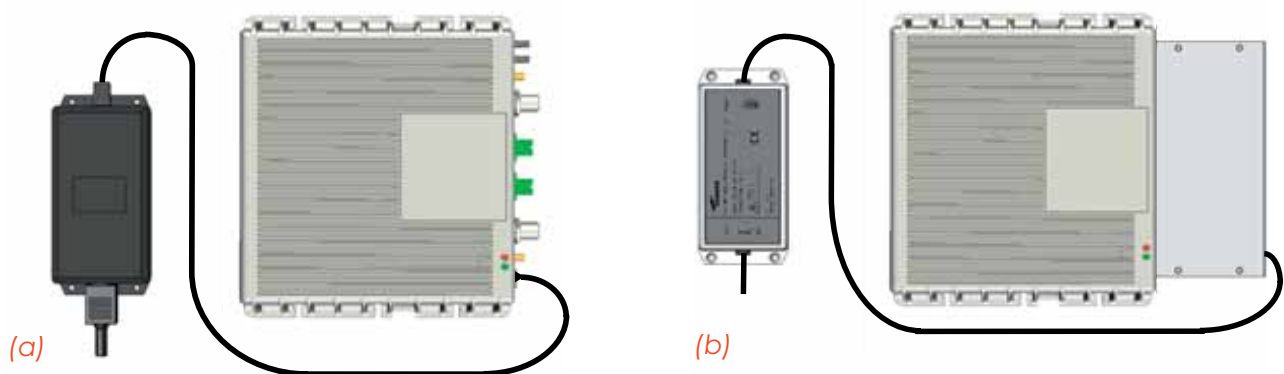

Figure 3.2.8:
- Under no circumstances should any piece of equipment be affected by the heat created by any other piece. The Remote Unit and its external power supply should be mounted so as to avoid reciprocal heating. Side-by-side configuration is suggested (Fig. 3.2.8 a,b)
- In order to assure proper heat dissipation, the external power supplies must be mounted in a vertical position with the power socket downwards (see Fig. 3.2.8 a,b).
8. If the Remote Unit is -48 Vdc powered, use the -48 Vdc plug (included) in order to connect the external adapter to the -48 Vdc mains (Fig. 3.2.8 b). If the Remote Unit is 90/264 Vac-powered, fix the 90/264 Vac plug (included) onto a power cord (not included), and use this cable in order to connect the external adapter to the mains (Fig. 3.2.8 a).